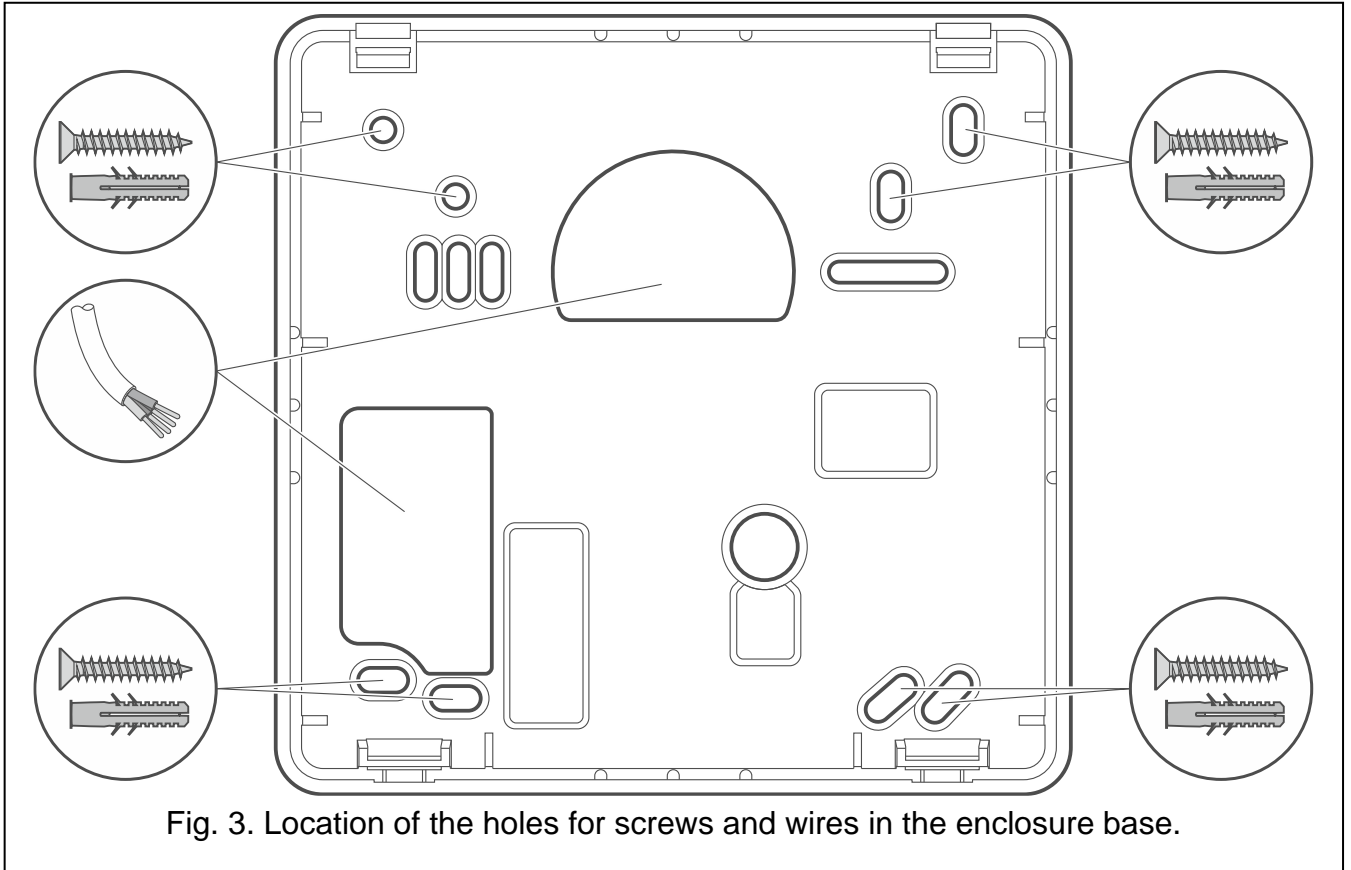

Fig. 3. Location of the holes for screws and wires in the enclosure base.
2. Place the enclosure base against the wall and mark the location of the mounting holes (Fig. 3).
4. Pass the cables through the opening in the enclosure base (Fig. 3).